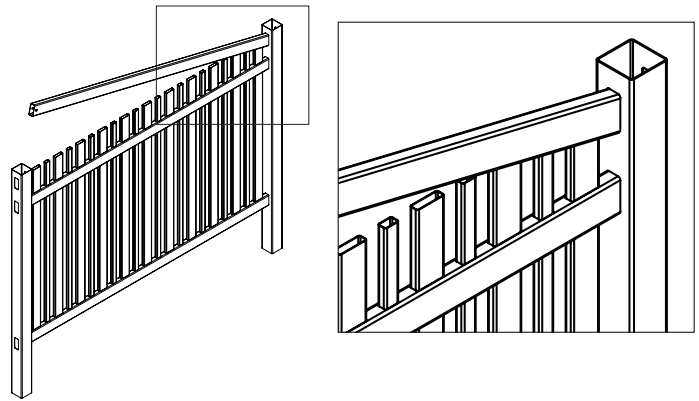

fig. 8
**STEP 6** – Follow the process in Step 5 to insert the top rail into the routed hole of the post. Carefully place the top rail over the pickets, making sure each picket slides into the routed holes in the top rail (fig. 8). Once the rail is securely locked in, the pickets will form a complete panel.